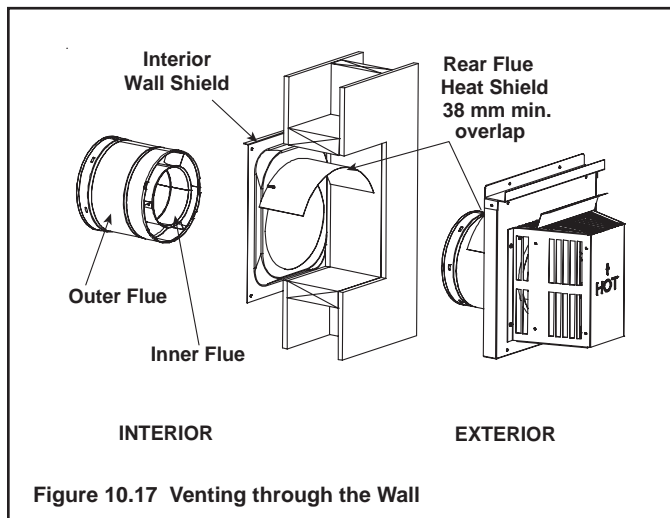

Figure 10.17 Venting through the Wall
- **DO NOT** remove the heat shields attached to the wall shield firestop and the horizontal termination cap (shown in Figure 10.17).
There are two sections of the heat shield. One section is factory-attached to the wall shield firestop. The other section is factory-attached to the cap. See Figure 10.17.